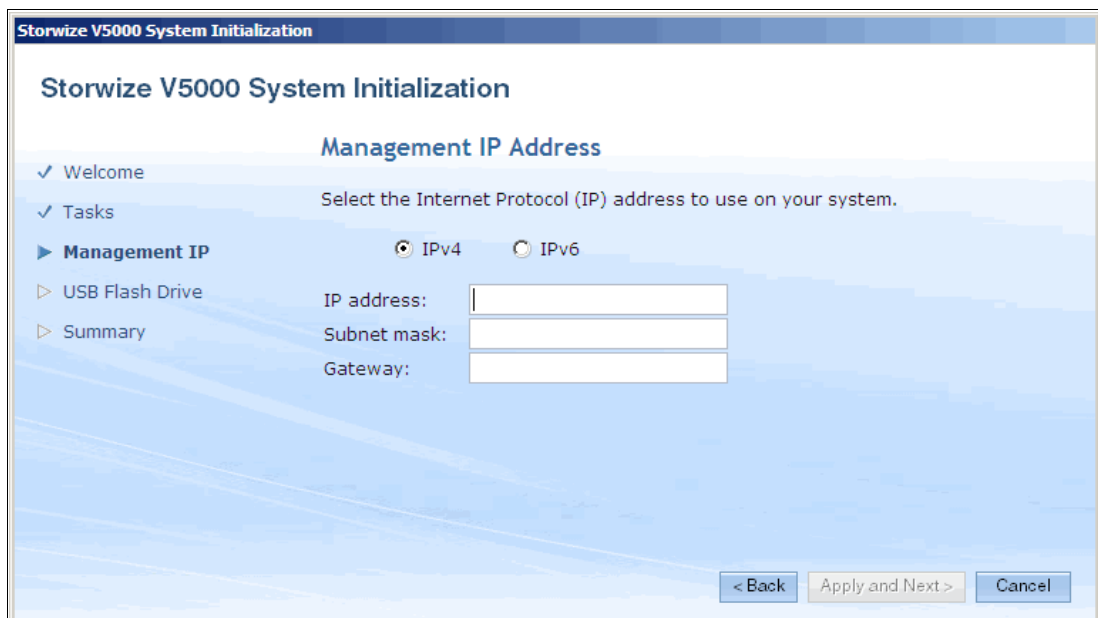

Figure 2-12 System Initialization: Management IP
2. Set the Management IP address, as shown in Figure 2-12.
1. Start the configuration wizard by using a web browser on a workstation and point it to the system management IP address that was defined in Figure 2-12 on page 44. Enter the default superuser password <passw0rd> (where 0 = zero), as shown in Figure 2-18.